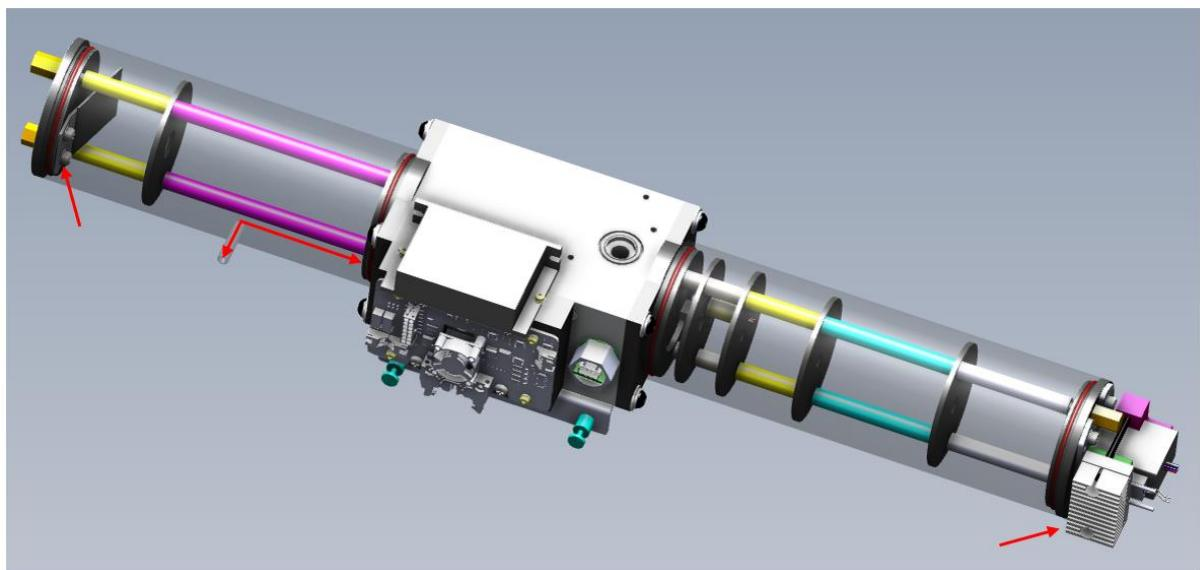

Figure 183 – Optical Cell Transparent Tube Casing
4. Replace the tube casing (light trap end) by sliding it back over the baffles taking care not to damage the paint. Refer to Figure 183 for the orientation of the casing (sample exhaust side closest to the block). Supporting the casing with both hands will give the best result. Once the casing reaches the block end you will need to change your hand placement, one hand used to support the block while twisting the casing with the other hand while also pushing towards the block. Care should be taken not to pinch the O-ring or your leak check will fail.
5. Place the light trap end plate over the threaded stubs and into the tube casing. Refer to Figure 183 for the direction of the light trap. Wiggle and press into place. Care should be taken not to pinch the O-ring or your leak check will fail.
8. Place the PMT end plate over the threaded stubs and into the tube casing. Refer to Figure 183 for the direction of the PMT assembly (heat sink of the PMT facing the light source side). Wiggle and press into place. Care should be taken not to pinch the O-ring or your leak check will fail.